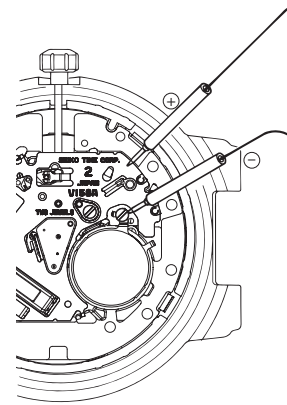

Fig. 8
- \* When measuring the voltage of the rechargeable battery, connect the (-) probe to the RECHARGEABLE BATTERY UNIT SCREW and (+) probe to the ②1 CIRCUIT BLOCK COVER as illustrated in Fig. 8.
- 1) Measure the voltage of the rechargeable battery before recharging (please refer to Fig. 8 of page 15 for where to apply the probes of the tester).